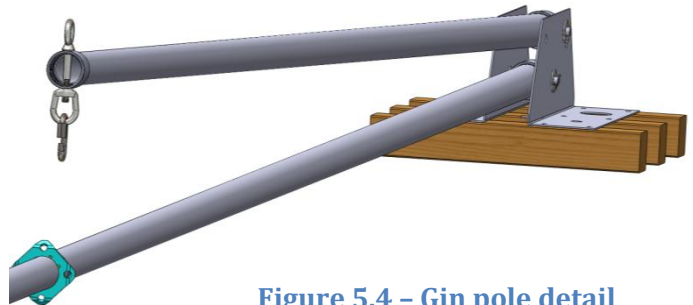

Figure 5.4 – Gin pole detail
- Apply a generous coating of grease to the threads of the other end of the pipe, and thread the Gin Pole Lifting Coupler to the pipe section. Tighten with opposing chain wrenches, applying at least 100 ft-lb of torque, and stopping when the cross-drilled holes in the two couplers are 90 degrees apart, as shown in Figure 5.4.
- It may be necessary to remove the eye bolt and eye nut in order to properly tighten Gin Pole Lifting Coupler. If so, you will need two long bars for leverage in order to loosen the bolt and nut, as the thread fit is very tight on this lifting-rated hardware. Once the coupler is threaded onto the pipe, reinstall the eye bolt and eye nut, with the plane of the eye bolt parallel with the axis of the pole, and the plane of the eye nut perpendicular to the axis of the pole. (See Figures 5.4 and 5.6)
- Install the supplied eye bolt and eye nut through the SMALLER cross-drilled hole. Tighten securely; with the plane of the eye parallel with the axis of the pole, and the plane of the nut perpendicular to the axis of the pole (similar to Figure 5.4).